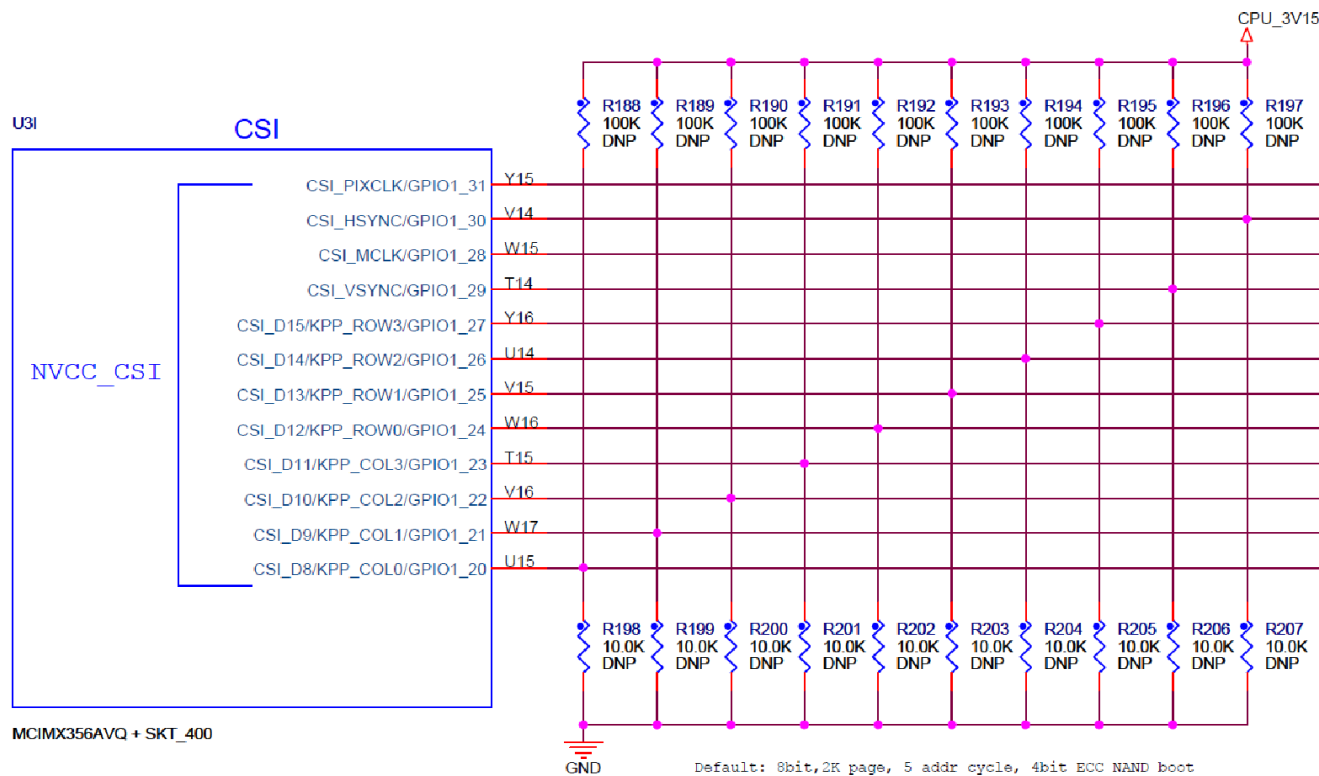

Figure 1. CPU board with fixed pull-up and pull-down
- Fixed pull-up (pull-up resistors are tied to 3.3V = NVCC_CSI = NVCC_CRM = CPU_3V15) or pull-down (pull-down resistors are tied to the system ground), as seen in Figure 1 in the CPU board.